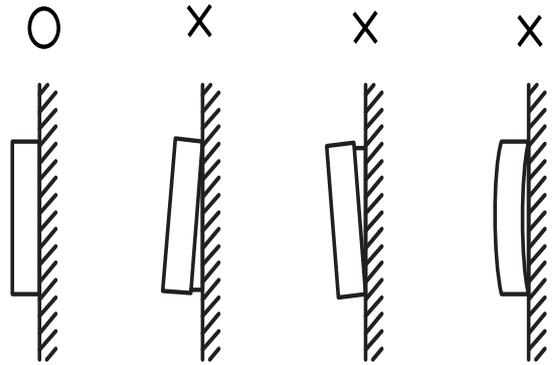

Fig.10
2. Correct install the back cover and firmly buckle the front cover and back cover, otherwise will make the front cover drop off. (Fig. 10)